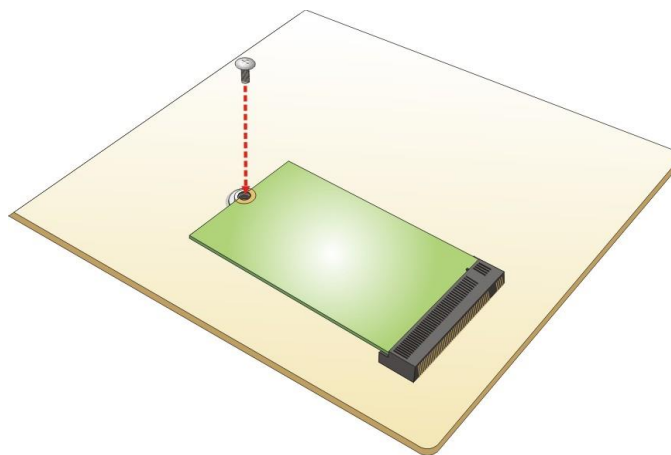

Figure 4-2: Securing The M.2 Module
- Step 4:** Secure the M.2 module with the previously removed retention screw (**Figure 4-2**).